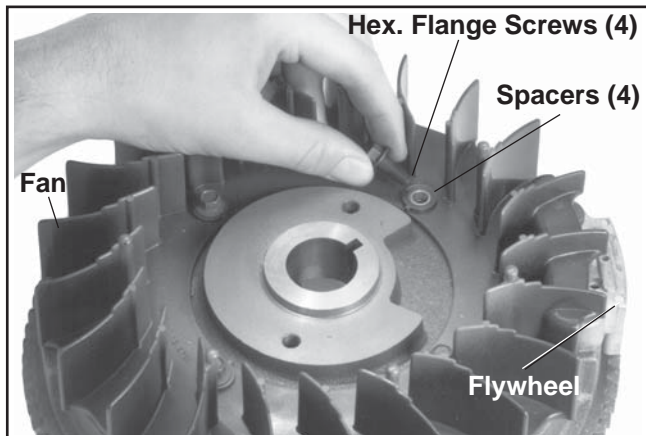

Figure 11-28. Installing Fan to Flywheel.
2. Reattach the fan to the flywheel, using the spacers and hex. flange screws, or shoulder screws. See Figure 11-28. Torque the hex. flange screws to **9.9 N-m (88 in. lb.)**. On electric start models, with the domed fan, proceed through step 4 before reattaching the fan.